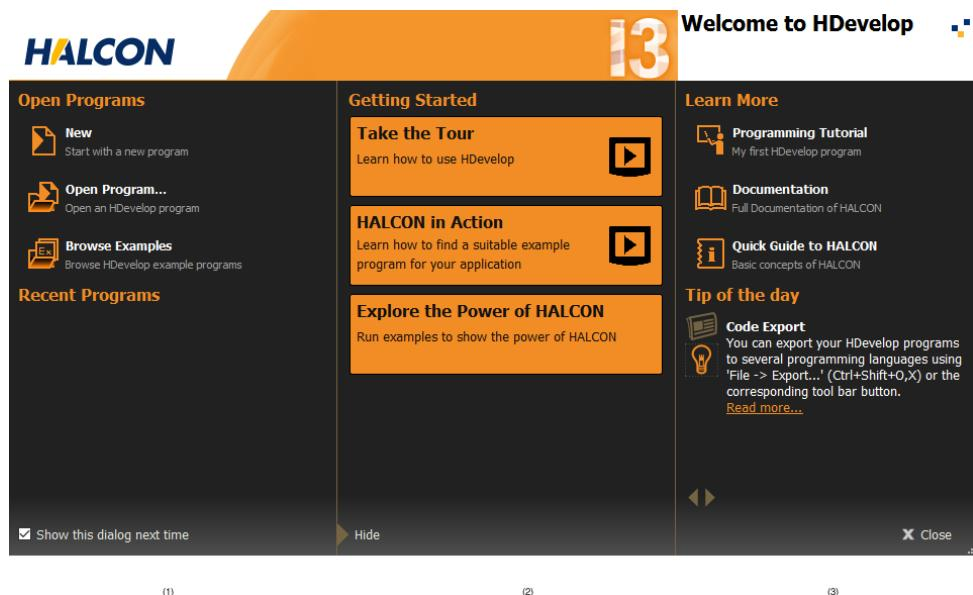

Figure 1.1: Start dialog.
The example program “Explore the Power of HALCON” demonstrates many different capabilities of HALCON in one program. It can be started from the start dialog, see figure 1.1 (2). Running this program is highly recommended to get a good overview of the many application areas of HALCON.